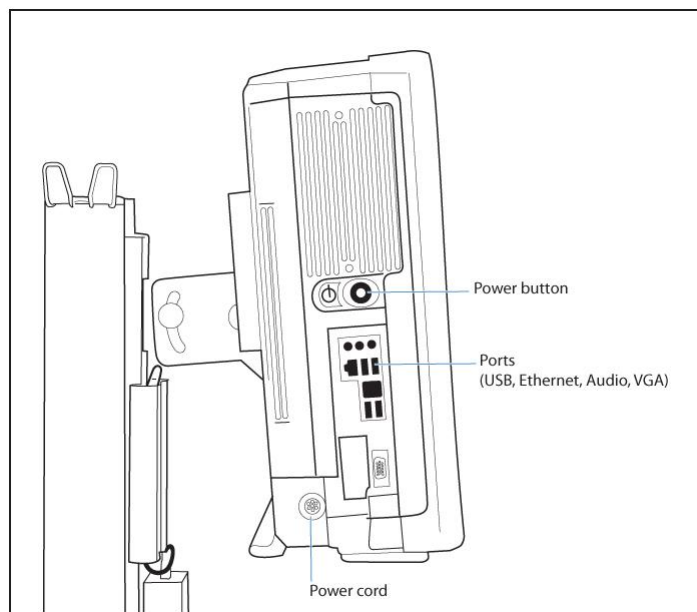

Fig. 15 Power pushbutton
- 2 Power up the computer by pressing the power button shown in Figure 15.